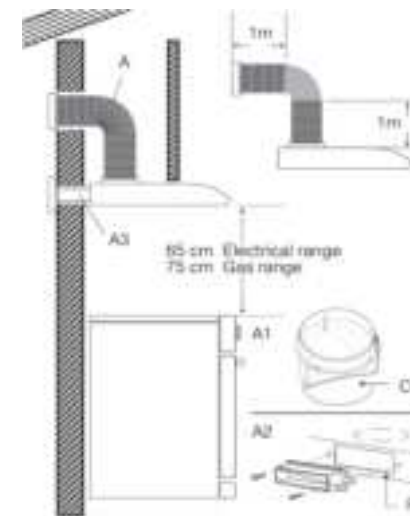

Figure 5
2. One end of the duct should be connected to the hood, and the other end to the outside of the range by making a hole in the wall (Fig. 5).